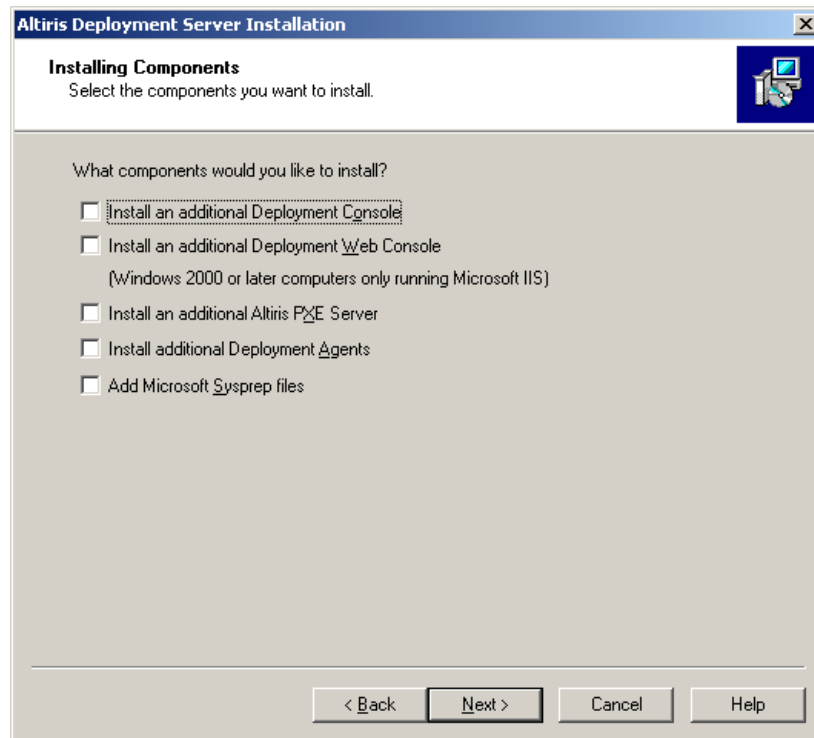

Figure 2-13 Installing Components window of the component installation process
4. Select the components you want to install as shown in Figure 2-13 on page 26 and click **Next** to continue.